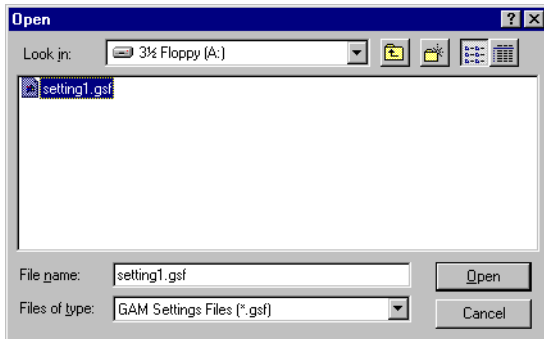

Figure 5-20. Open Previously Saved Settings
1. Click Open Settings. An Open dialog box is displayed (Figure 5-20).